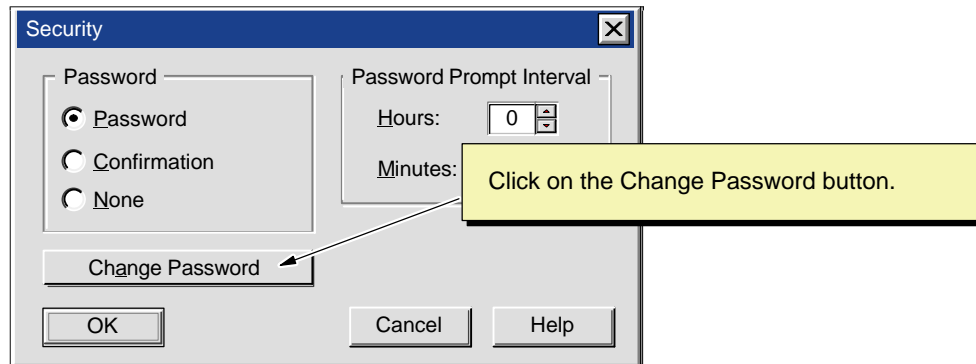

Figure 4-21 Accessing the “Change Password” Dialog Box
3. In the Security dialog box, click the Change Password button. See Figure 4-21.